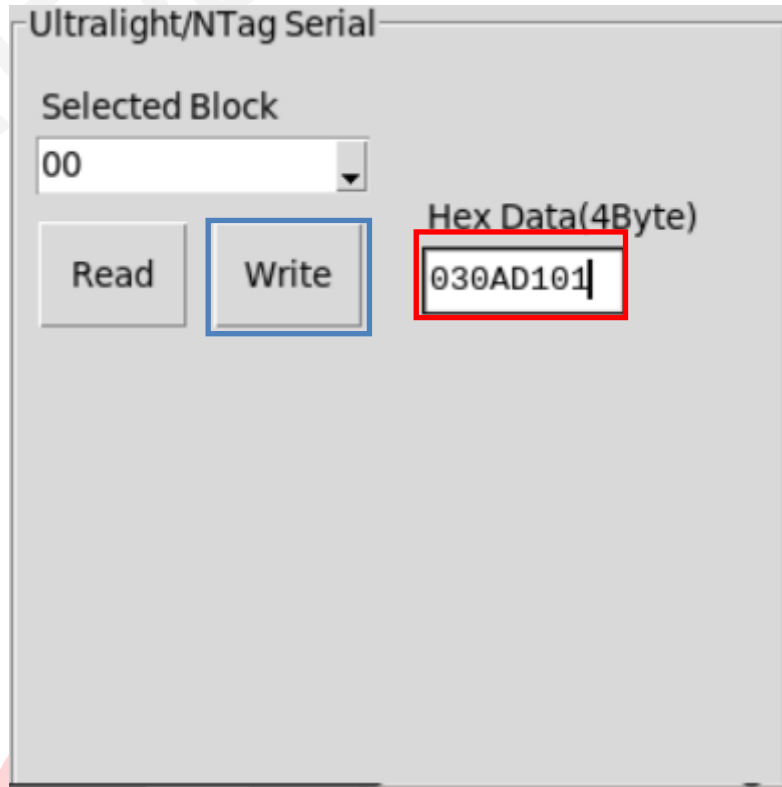

Figure 7.2-2 Input 4-byte hexadecimal data
3. Input 4-byte hexadecimal data to be written, as shown in Figure 7.2-2.